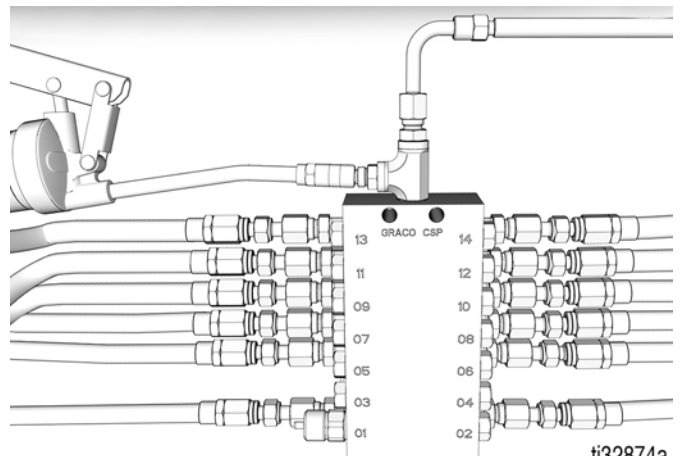

FIG. 33
- Connect a grease gun to the grease zerk on the CSP valves to fill them with grease (FIG. 33).